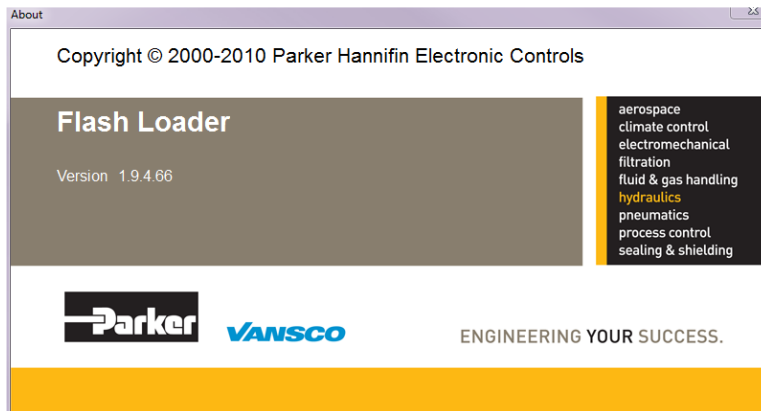

Figure 2: Flashloader version
- b. To check the version is v1.9 or later, click Help → click About. See figure 2.